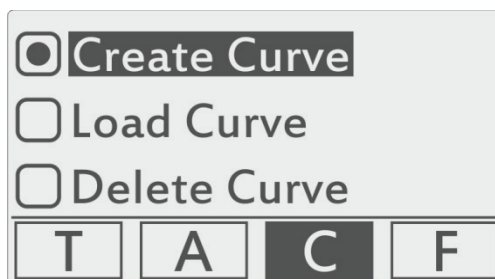

Figure 11 – Menu for working with curves
3. When pressing the **PRINT/DELETE** button, the menu of operations with the table is displayed (Figure 11).